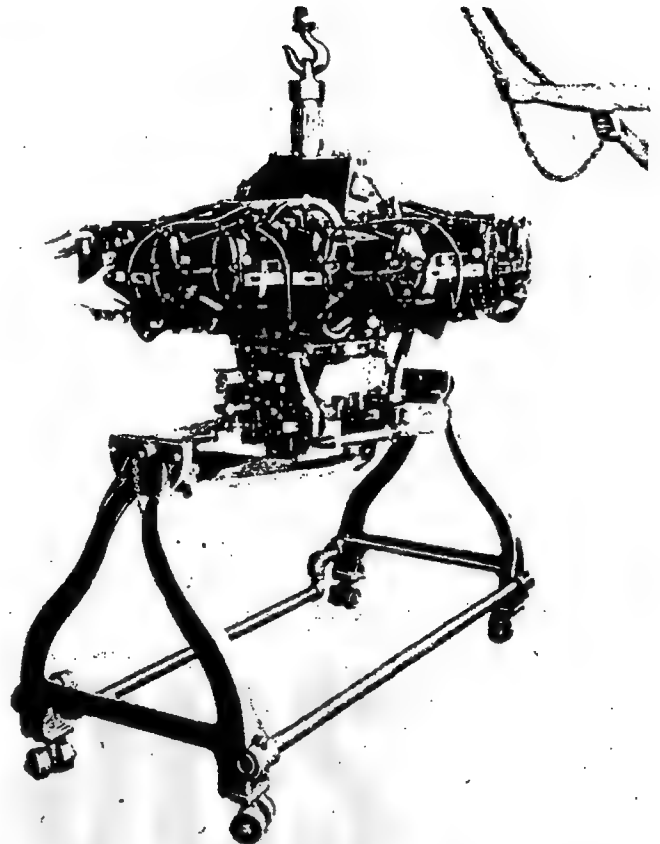
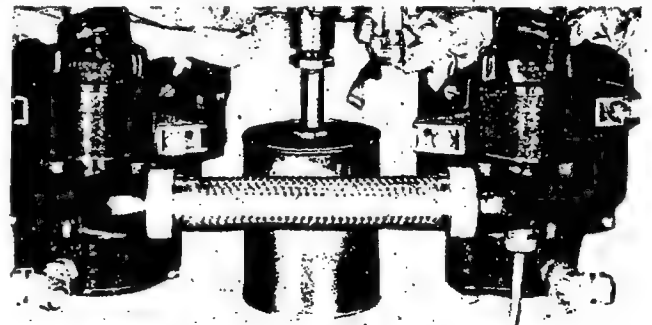

Figure 23—Mounting Engine on Disassembly Stand
Figure 24—Location of Oil Tank Vent Sump
(1) Refer to paragraph 4, RUN-OUT AND SLUSHING PROCEDURE, and perform every operation. At some time during the procedure it will be necessary to remove the engine from the aircraft and place it in a disassembly stand. This may be done at the discretion of the operator. See figure 23.
(2) Cover all breathers and vents with moisture-resistant seals.
(3) Install the gasket and dehydrator bag assembly on the carburetor mounting pad and seal the induction passage tightly with a moisture-resistant seal.
(4) Install the oil tank vent sump in the oil tank vent connection on the supercharger rear housing cover. See figure 24. Lockwire the removed plug to any nearby location.
(5) Raise the engine from the disassembly stand.
(6) Lift the plastic-film envelope loosely over the supercharger rear housing and attach temporarily to the cylinders. Secure the mounting plate to the engine.
(7) Lower the engine and attach the mounting plate to the cradle of the shipping box.
(8) Coat the propeller shaft internally and externally with slushing mixture and AN-C-52, respectively. Wrap the shaft in a grease-proof, acid-free wrapper and secure with adhesive tape.